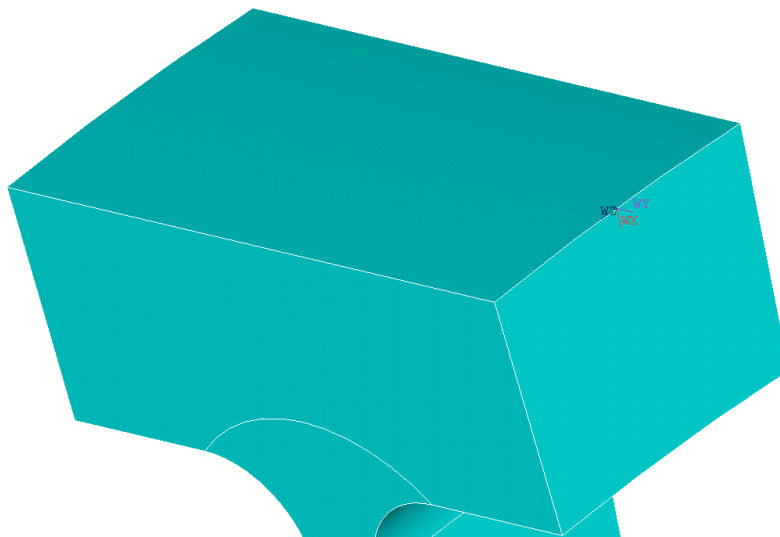

Fig. 6.6. Setting the working coordinate system
1) Set the working coordinate system on rim of disk as shown in Fig. 6.6. **MM** → **WorkPlane** → **AlignWP with** → **Plane Normal to Line** → **L93** → **Ratio Along Line=0,5**. The coordinate system must be installed in the middle of the line 93, while the line will be normal to the XY plane;